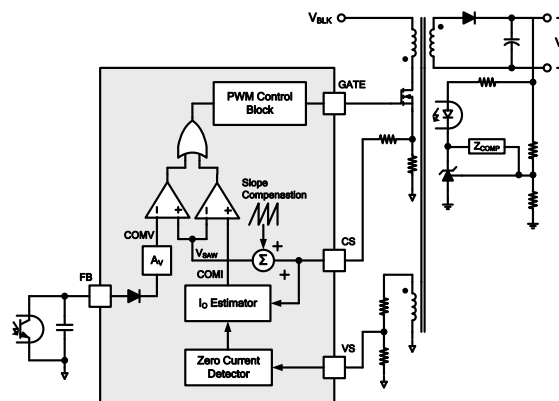

Figure 19. Simplified CV / CC PWM Control Circuit
Figure 19 shows a simplified CV / CC PWM control circuit of the FAN501A. The Constant Voltage (CV) regulation is implemented in the same manner as the conventional isolated power supply, where the output voltage is sensed using a voltage divider and compared with the internal reference of the shunt regulator to generate a compensation signal. The compensation signal is transferred to the primary side through an opto-coupler and scaled down by attenuator A_V to generate a COMV signal. This COMV signal is applied to the PWM comparator to determine the duty cycle.